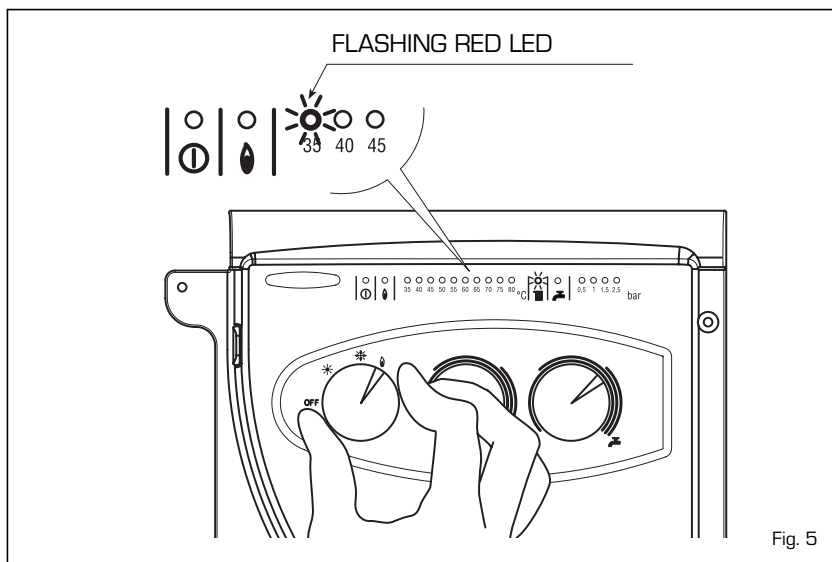

Fig. 5
- Safety stat interception (fig. 5)